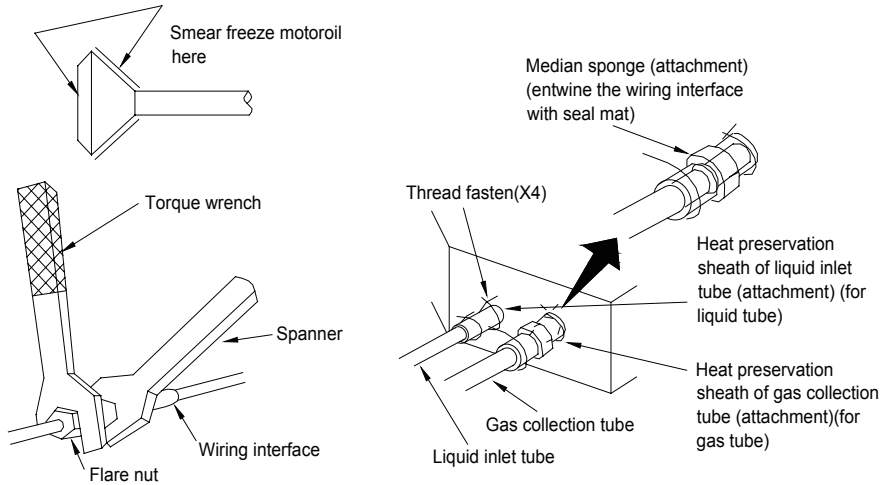

Fig.5
and torque wrench. as shown in Fig.5.
- ◆ Examine the connection pipe to see if it has gas leakage, then take the treatment of heat insulation, as shown in the Fig.5.